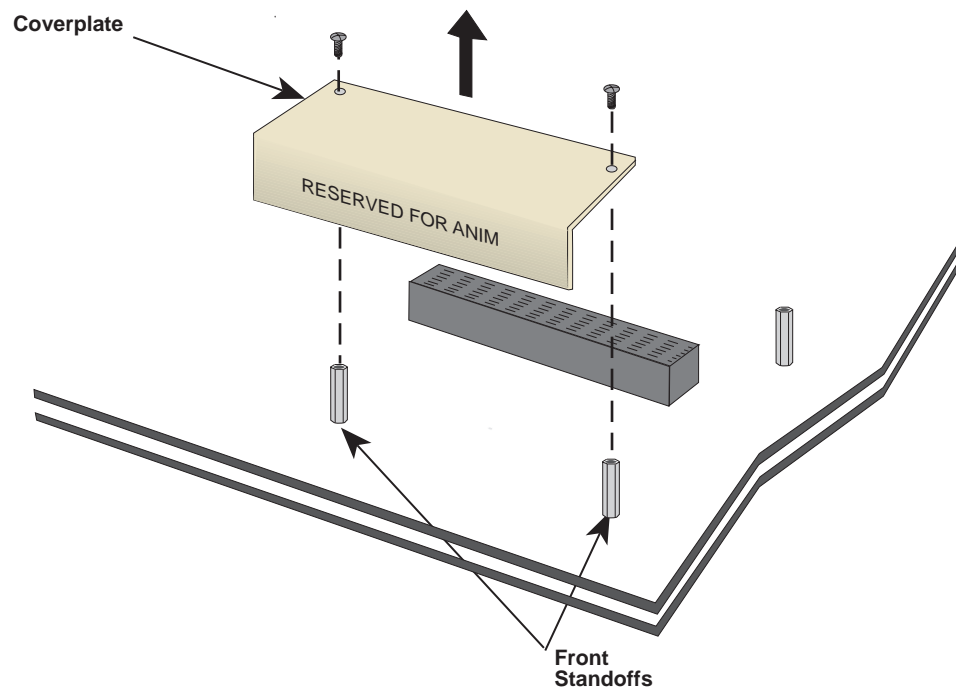

Figure 2-4. Removing the Coverplate
2. Refer to Figure 2-4. Remove the two screws fastening the coverplate to the front standoffs where the ANIM is to be installed. Save the screws.